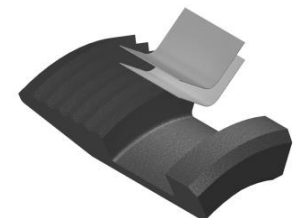

Fig. 4
**NOTE10:** Install two (2ea) springs per slip (Fig. 4).